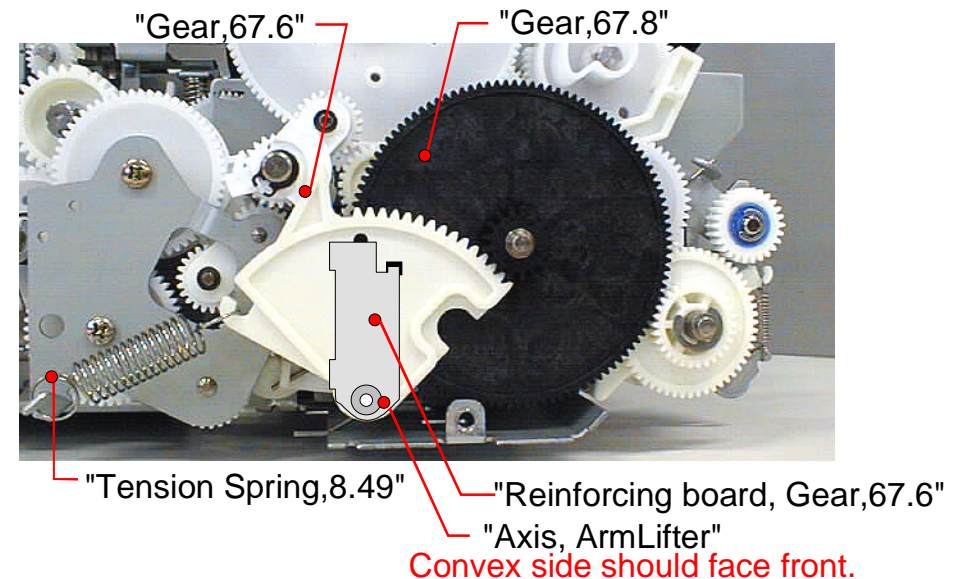

Figure 4-126. Installing the rest parts of "Frame Assembly, Middle, Right"(3)
50. Install "Gear,67.8". (Refer to Figure4-126)
51. Install "Gear,67.6". (Refer to Figure4-126)
52. Install "Tension Spring,8.49" into between "Gear,67.6" and "ASF Gear Train Cover Assembly". (Refer to Figure4-126)
53. Install "Reinforcing board, Gear,67.6". (Refer to Figure4-126)
(Refer to Figure4-126)